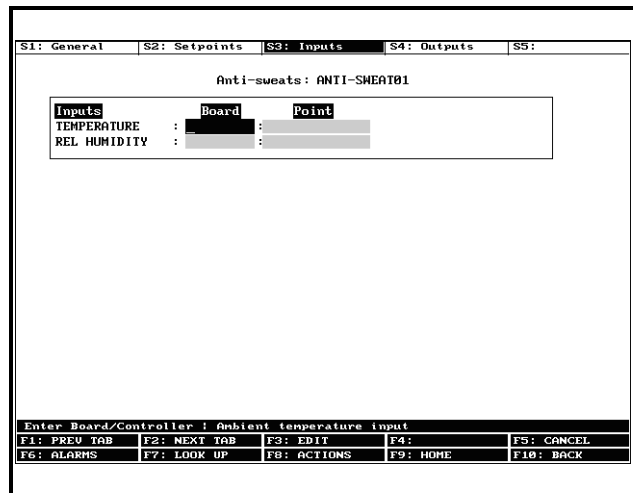

Figure 3-5 - Inputs Screen
7. Press **F2** to advance to the Inputs screen. See **Figure 3-5**.